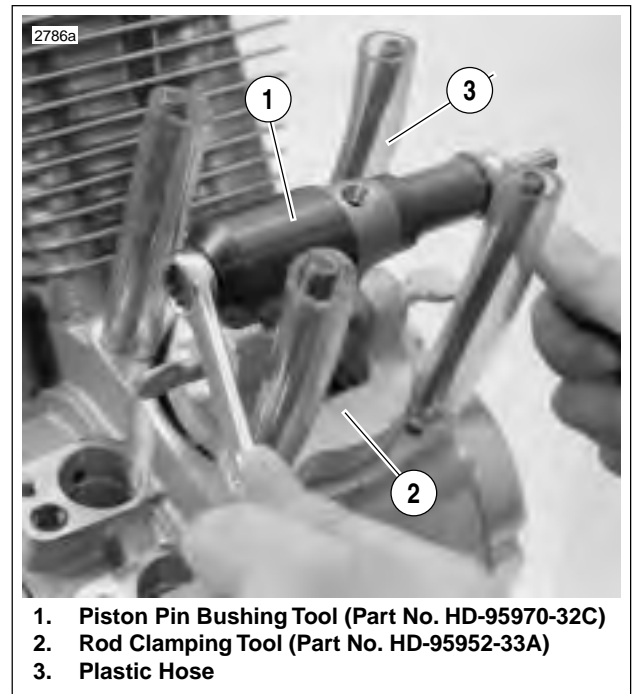

Figure 3-38. Installing New Piston Pin Bushing
1. See Figure 3-38. Install plastic hoses (3) over studs.
2. Secure connecting rod with **CONNECTING ROD CLAMPING TOOL** (2) (Part No. HD-95952-33A).